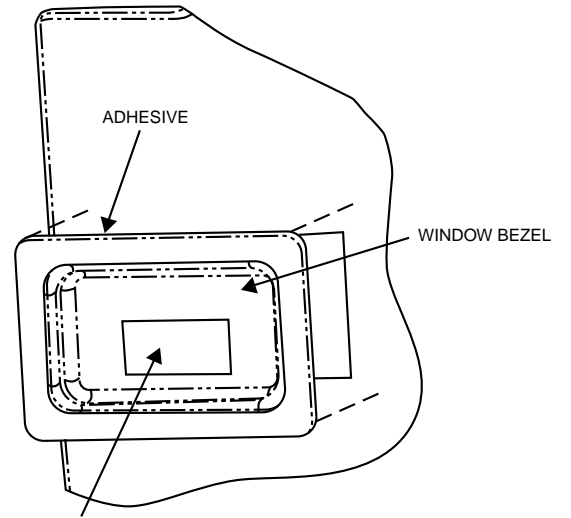

Fig. 3—Installation of Bezel
- 10. Remove adhesive backing from window bezel. From the outside of the door, insert the window through the rectangular hole in the door. Press the frame firmly on the door surface to seat the adhesive. (See fig.3)